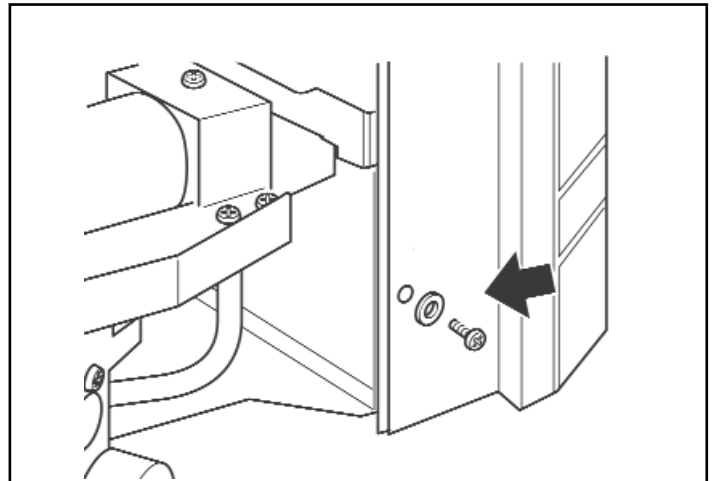

Figure 26. Fascia securing (Fascia may differ from that shown - washers only used on Bolero model)
3. Secure the fascia using the two 'E' screws and 'D' washers supplied (See figure 26).
2. Secure the fascia using the two 'C' screws supplied (See figure 26).